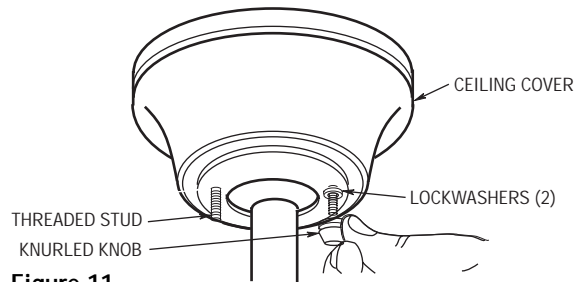

Figure 11
4. Lift the ceiling cover up to the threaded studs and turn until studs protrude through the holes in the ceiling cover (Figure 11).
5. Secure the ceiling cover in place by sliding lockwashers over the threaded studs and installing the two knurled knobs (supplied). (Figure 11). Tighten the knurled knobs securely until the ceiling cover fits snugly against the ceiling and the hole in the ceiling cover is clear of the downrod. Your fan is now wired to be turned on and off from the fan switch.